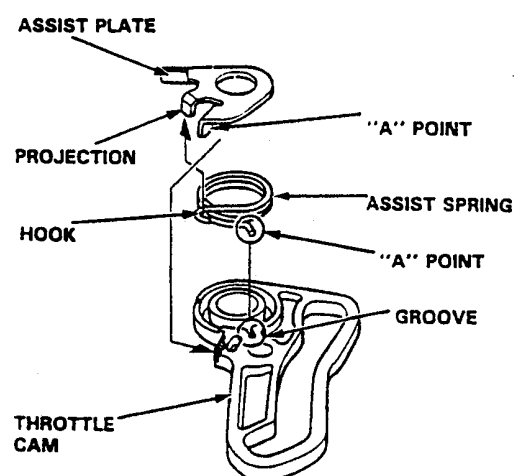

Fig. 14-14 Throttle-cam details
The bore of the throttle cam (3) should be greased and fitted to the bolt followed by the assist spring (4) with its hook located on the cam projection (Fig. 14-14).